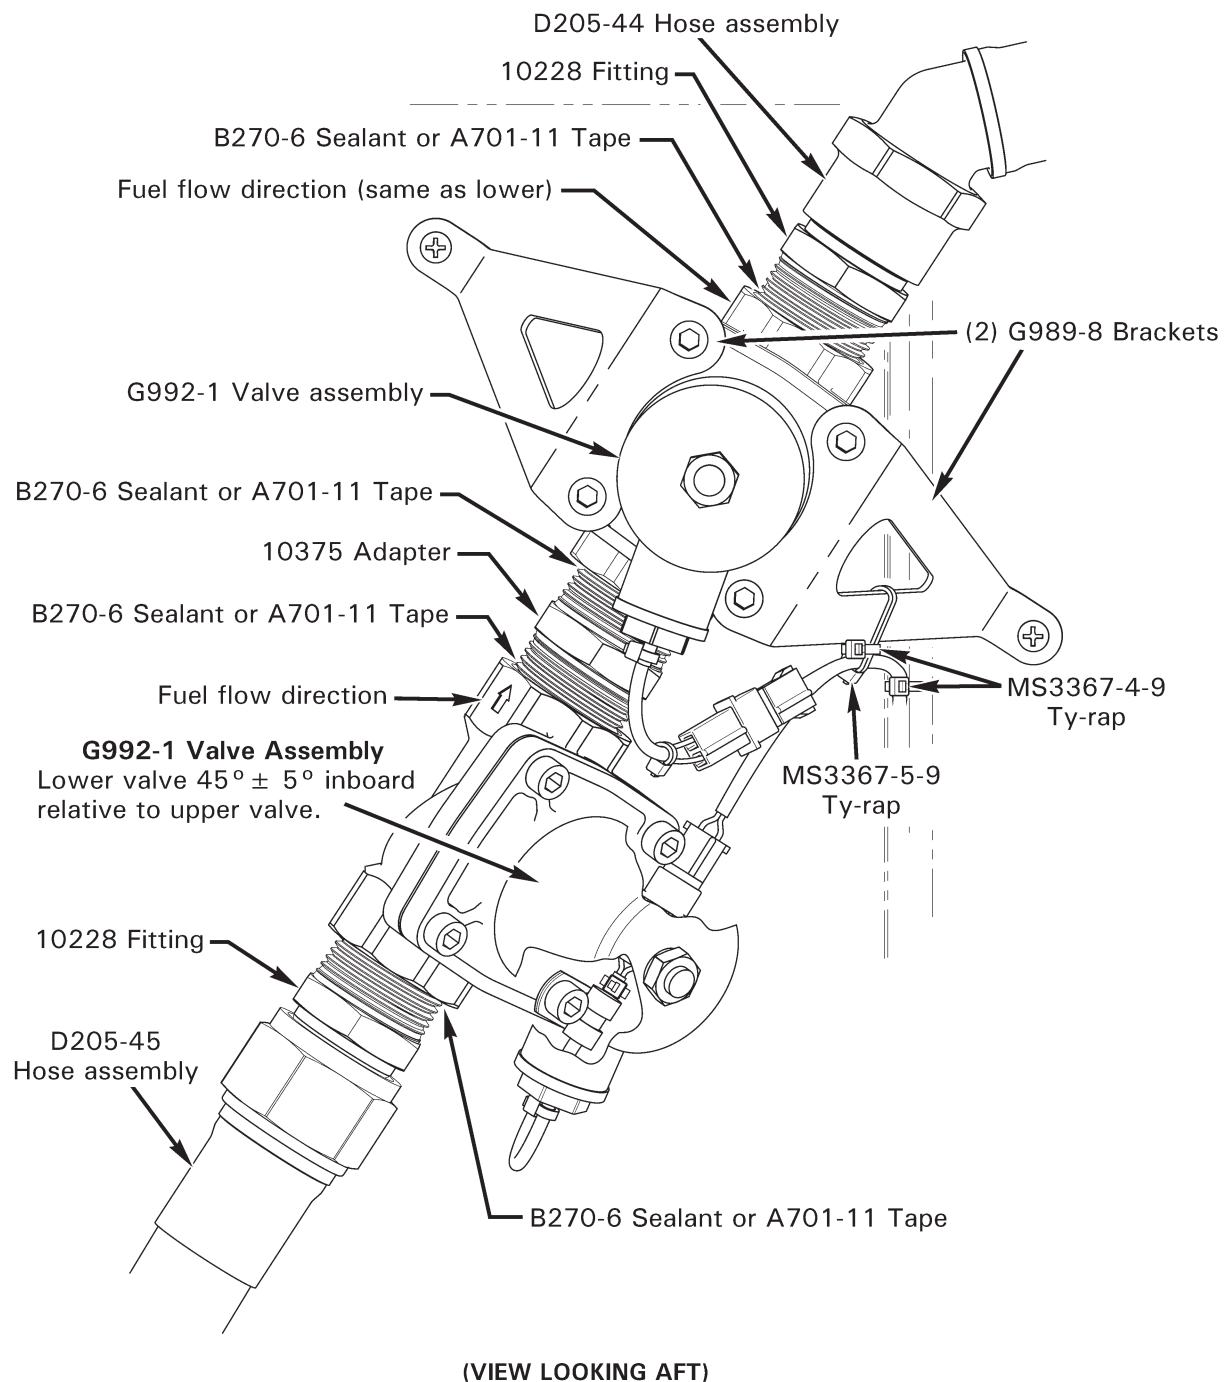

FIGURE 28-10 PRESSURE FUEL SYSTEM SHUT-OFF VALVE ASSEMBLIES
3. Refer to Figure 28-10. Open right-side engine cowling door. Remove hardware securing G989-8 brackets to firewall. Cut and discard ty-raps as required.
4. Using backup wrench, special torque hose nut per § 20-33 but do not torque stripe. Install ty-raps per Figure 28-10. Cinch ty-raps snug without over tightening and trim tips flush with heads
4. Refer to Figure 28-10. Cut and discard ty-raps as required and disconnect G992-1 valve assembly wire harnesses from G991-1 harness assembly at connectors.
3. Refer to Figure 28-10. Assemble upper and lower G992-1 valve assemblies and 10375 adapter. Special torque valves and adapter to 500 in.-lb. Tighten valves to align lower valve to  $45^{\circ} \pm 5^{\circ}$  inboard relative to upper valve and torque stripe per Figure 5-1.